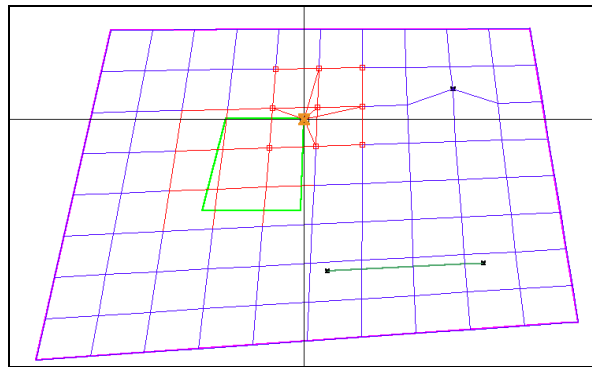

Figure 8.2-9 - The Common Vertex Next to a Corner of the Opening is Picked And Snapped to the Corner
- Select the common nodes of the cells that are close to opening corners and using *Snap Intersection*  snap them to the adjacent opening corner. Follow this by bringing the nodes next to opening sides and snapping them to the side. Use *Snap to Nearest*  for this operation. Then select and delete the cells that are inside the opening. The mesh editing for the opening is illustrated in **Figs 8.2-9** through **8.2-11**.